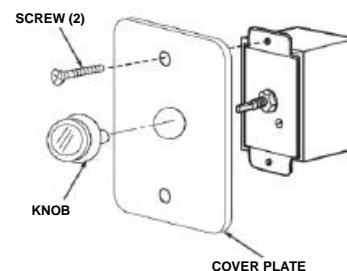

Figure 5
3. Install the front cover using two screws supplied (Figure 5).